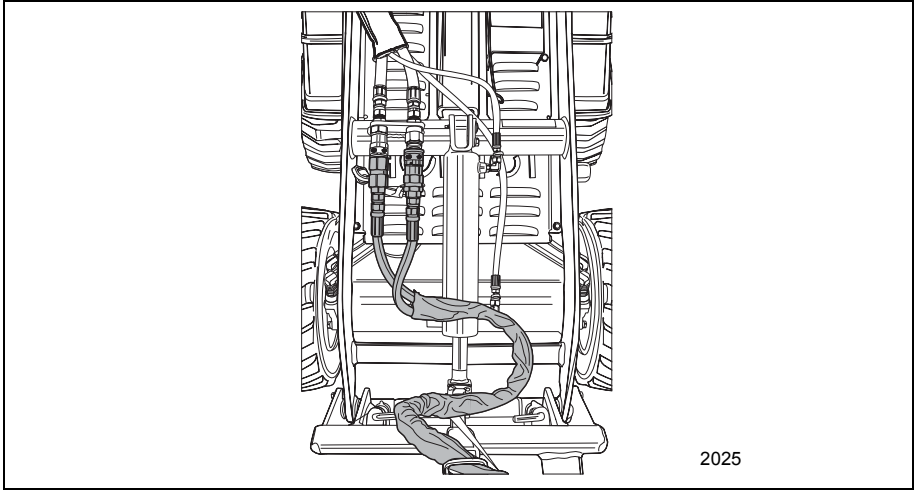

Figure 3-31 Attachment Hydraulic Hose Routing
11. Make sure that the hydraulic hoses are routed so that they will not be in the way or damaged during machine operation. Figure 3-31 shows how the hoses might be routed to keep them out of the way during operation and prevent them from being damaged.